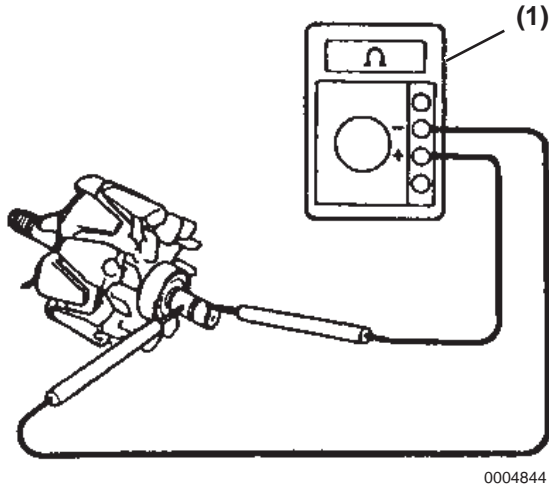

Figure 11-19
1. Using an ohmmeter (**Figure 11-19, (1)**) check the rotor circuit resistance. The rotor circuit should have continuity between the slip rings. If the resistance is not within specifications or there is no continuity replace the rotor.